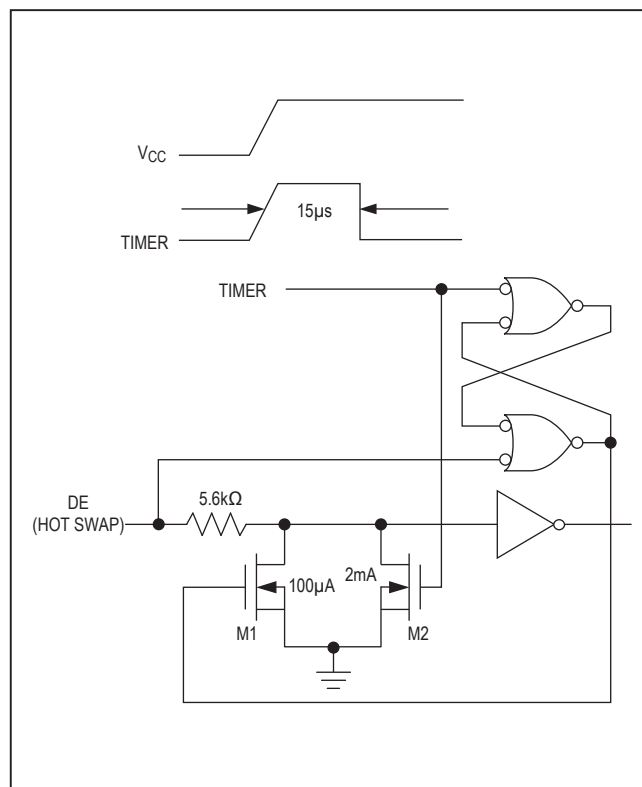

Figure 10. Simplified Structure of the Driver Enable Pin (DE)
At the driver-enable input (DE), there are two NMOS devices, M1 and M2 (Figure 10). When  $V_{\text{CC}}$  ramps from zero, an internal 15 $\mu\text{s}$  timer turns on M2 and sets the SR latch, which also turns on M1. Transistors M2, a 2mA current sink, and M1, a 100 $\mu\text{A}$  current sink, pull DE to GND through a 5.6k $\Omega$  resistor. M2 pulls DE to the disabled state against an external parasitic capacitance up to 100pF that may drive DE high. After 15 $\mu\text{s}$ , the timer deactivates M2 while M1 remains on, holding DE low against three-state leakage currents that may drive DE high. M1 remains on until an external current source overcomes the required input current. At this time, the SR latch resets M1 and turns off. When M1 turns off, DE reverts to a standard, high-impedance CMOS input. Whenever  $V_{\text{CC}}$  drops below 1V, the input is reset.